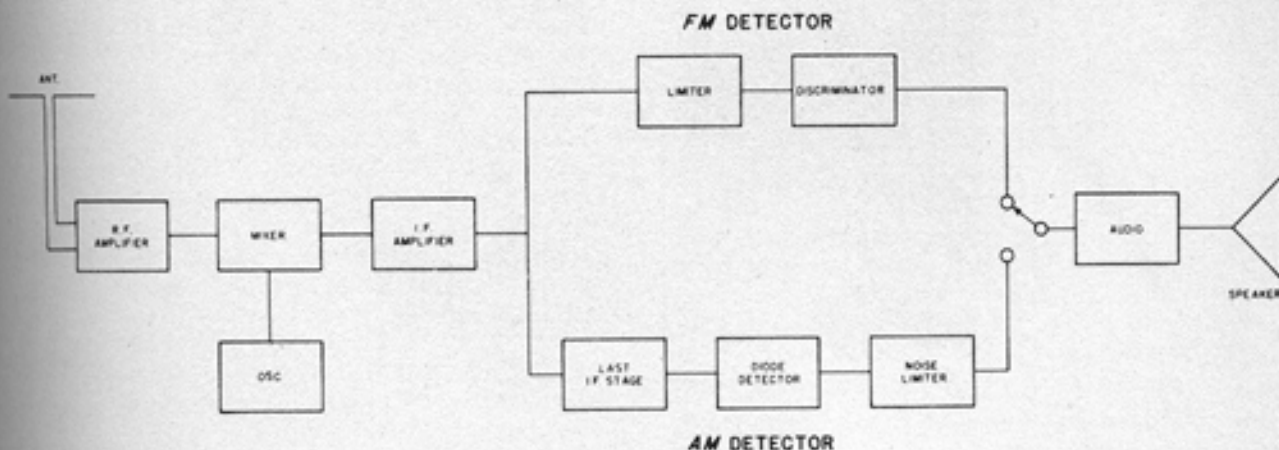

Figure 2. Model S-36 Receiver, block diagram
**A-2. RECEIVER UNIT** - The Model S-36 receiver is an ultra-high frequency radio receiver capable of receiving amplitude and frequency modulated radio signals within a frequency range of 27.8 to 143 megacycles. Refer to Fig. 2 for circuit details, and to Fig. 7 for location of important parts.
The circuit is that of a conventional superheterodyne receiver preceded by one stage of tuned radio frequency amplification. The intermediate frequency amplifier of the superheterodyne circuit terminates in both amplitude modulation and frequency modulation detector circuits which can be switched to the same audio amplifying system by means of the front panel AM/FM switch, thus providing either type of reception at will. Refer to Fig. 2 for block diagram.